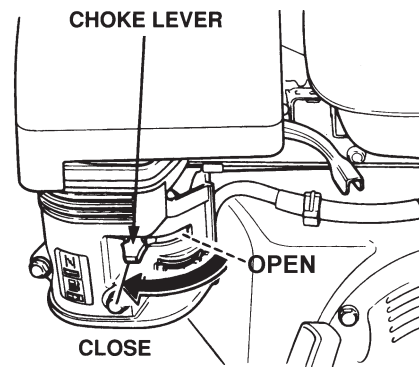

Figure 12. Choke Lever
2. To start a cold engine, move the choke lever (Figure 12) to the **CLOSED** position.